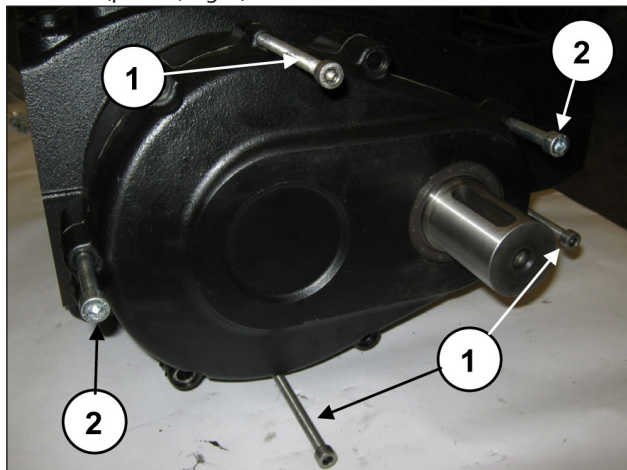

Fig. 5
Position the 3 grub screws or M8 threaded screws (pos. ①, Fig. 5) with the function of extractors in the holes and two sufficiently long M10 screws with the function of supporting the cover (pos. ②, Fig. 5).